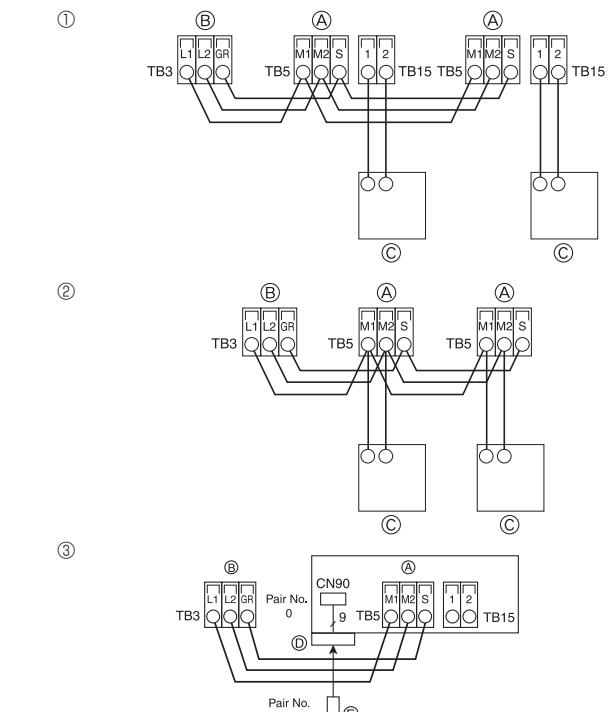
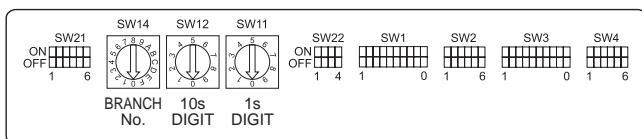

Fig. 5-8
Fig. 5-9
5.4. Connecting remote controller, indoor and outdoor transmission cables (Fig. 5-8)
- ① MA Remote controller
- ② M-NET Remote controller
- ③ Wireless remote controller (When installing wireless signal receiver)
④ Terminal block for indoor transmission cable
⑤ Terminal block for outdoor transmission cable (L1(A), L2(B), GR(S))
⑥ Remote controller
⑦ Wireless signal receiver
⑧ Wireless remote controller
5.5. Setting addresses (Fig. 5-9)
5.6. Sensing room temperature with the built-in sensor in a remote controller (Fig. 5-9)
5.7. Switch setting for high ceiling (Fig. 5-9)
5.8. Switch setting for i-See sensor (Fig. 5-9)
5.9. Switch setting for horizontal airflow direction (Fig. 5-9)